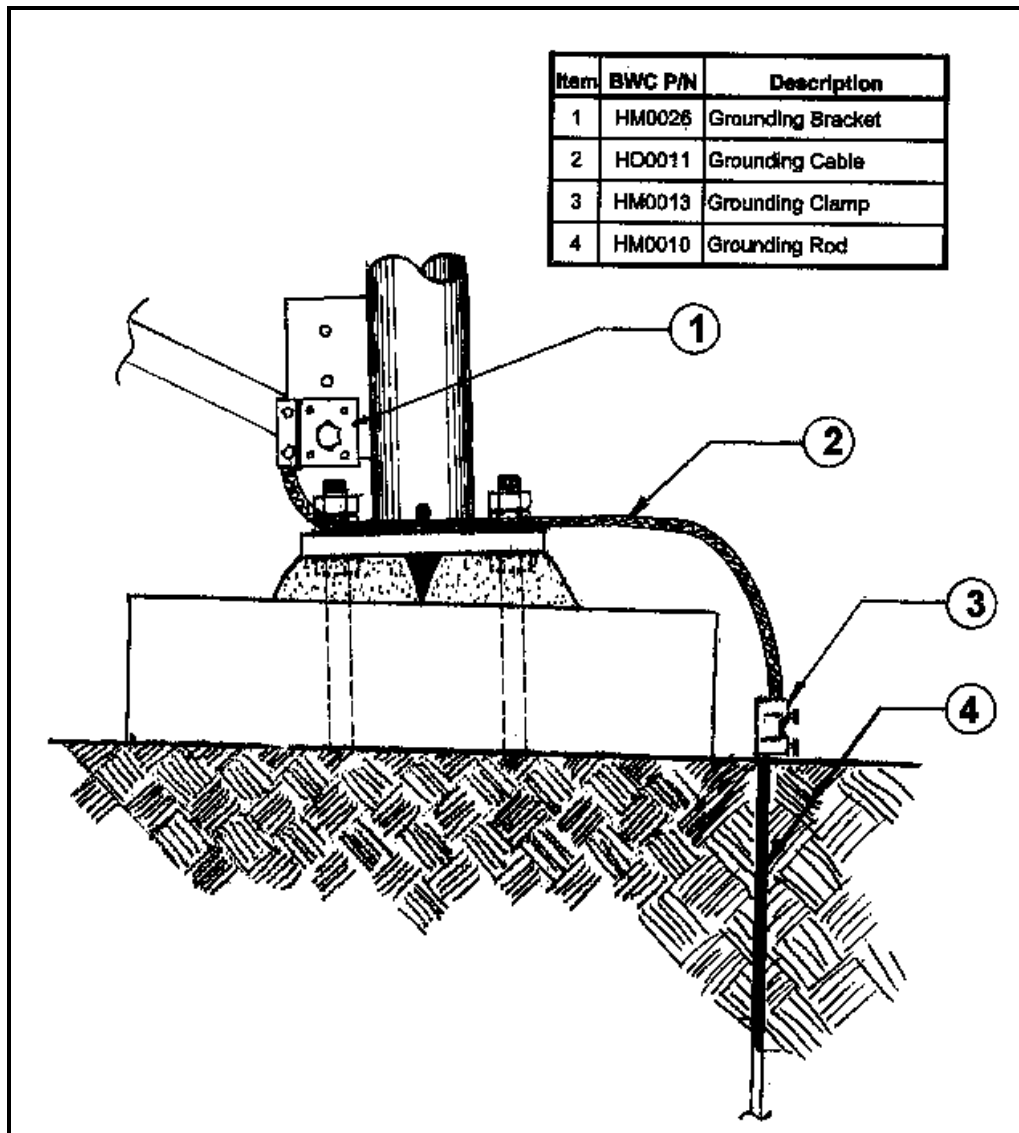

Figure 23. Tower Grounding Diagram
4. Put one of the grounding brackets, P/N HM0026, on the lowest brace bolts of each tower leg as shown in **Figure 23** (following section).